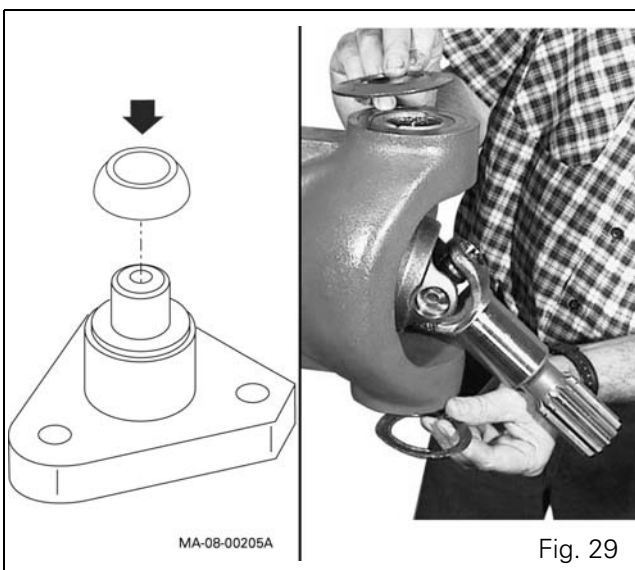

Fig. 29
28. Place the lower pivot pin on a workbench and install the ball joint cone using special tool ref. CA715035 (see § K) and a press. Apply a generous amount of grease to the pivot pin housings. Fit the Belleville washers on the pivot pin housings (Fig. 29).